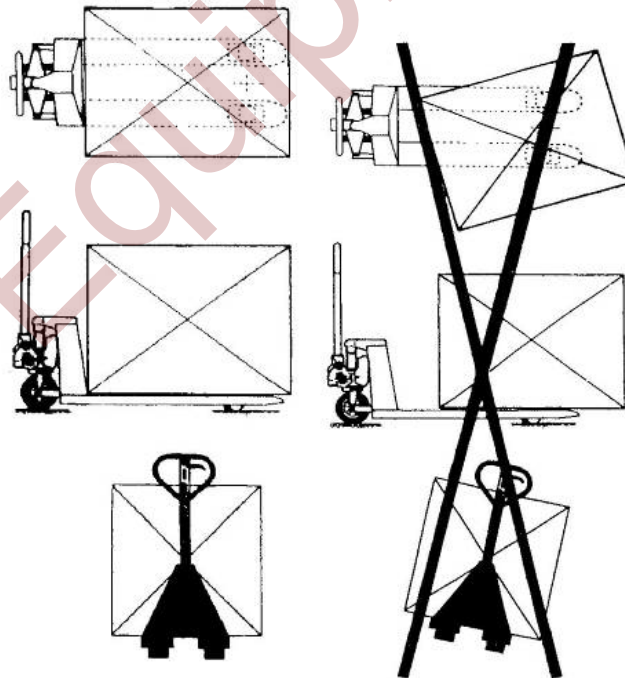

Fig.6
- 5.2 The cargo loading type is shown as fig 6.